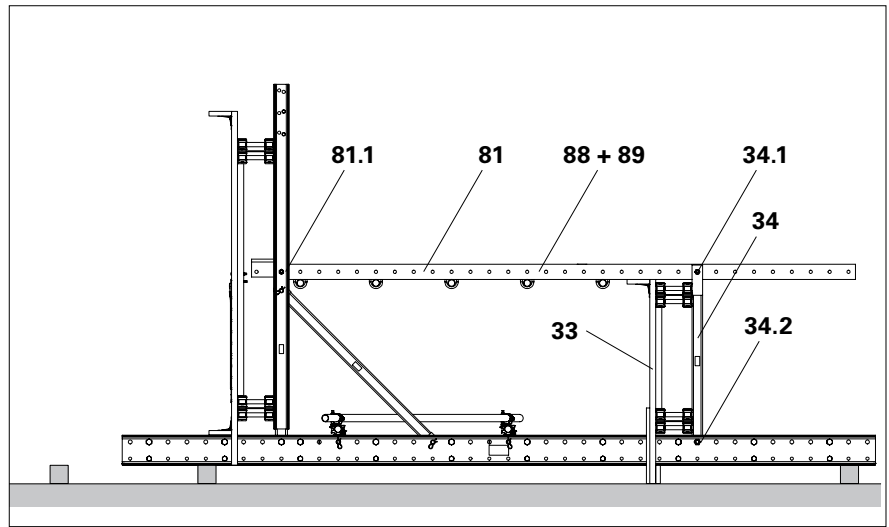

Fig. C4.09
4. As anti-fall protection, connect Scaffold Tubes (**88**) to Clamp A64 (**89**). (Fig. C4.09)